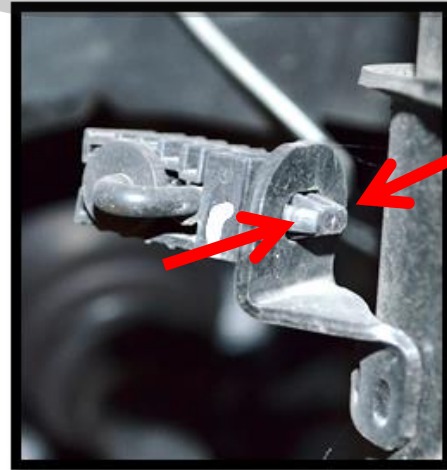

Figure 2b
- b) Remove the ABS sensor attachments from the strut (shown in Figure 2b and 2c).
- b) **Remove the ABS sensor attachments from the strut** (shown in Figure 2b and 2c). Use a pair of needle nose pliers to carefully squeeze the tabs in the direction of the red arrows.
m) Replace the ABS sensor clips removed in Figures 2b and 2c.